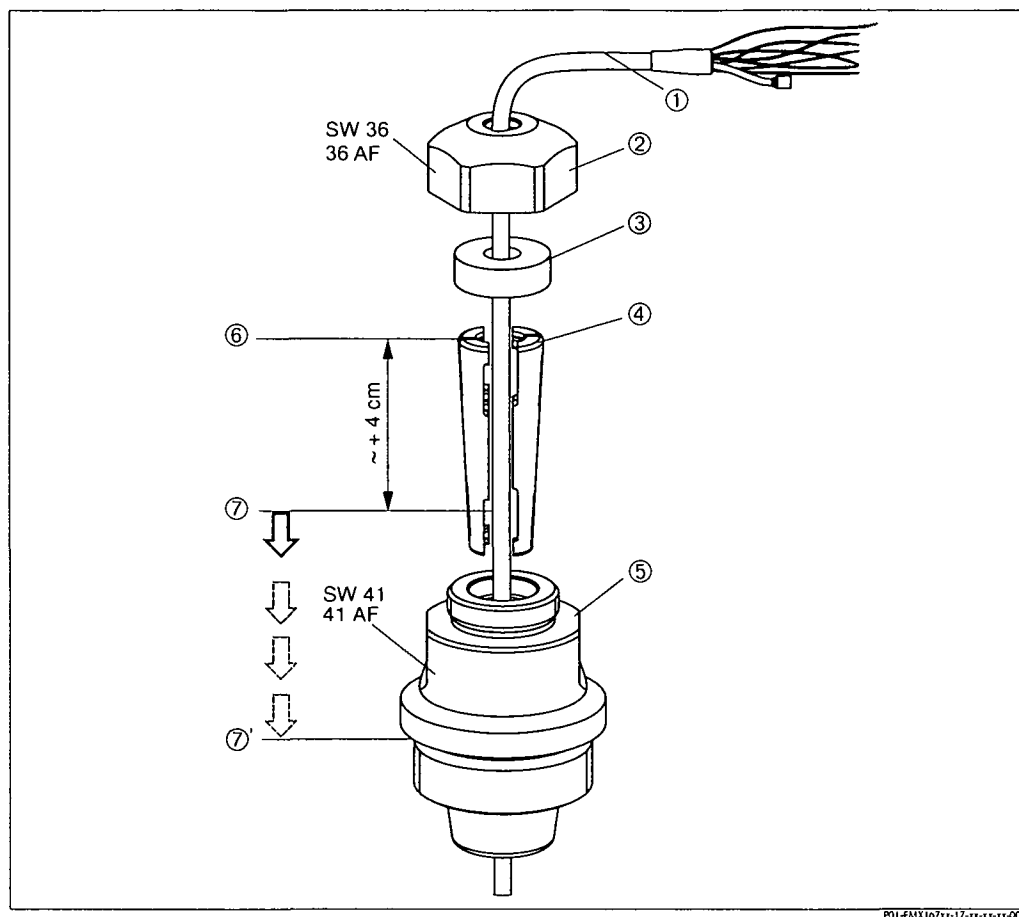

Fig. 6: Installing the Waterpilot FMX167 with cable mounting screw, here depicted with G 1 1/2 thread
5. Place clamping sleeve (Pos. 4) around extension cable (Pos. 1) acc. to Figure 6.